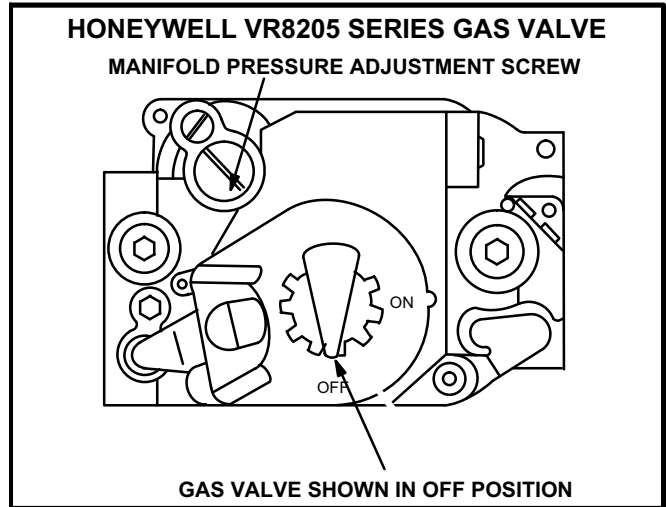

FIGURE 9
## OPERATION OF HONEYWELL VR8205 SERIES GAS VALVE (FIGURE 9)
- 2 - After line pressure has been checked and adjusted, check regulator pressure. Correct manifold pressure is shown on the unit rating plate. See figures 9 for gas pressure adjustment screw location. A natural gas to LP/propane gas changeover kit is required to convert the unit in the field. Refer to installation instructions provided with changeover kit for conversion procedure.